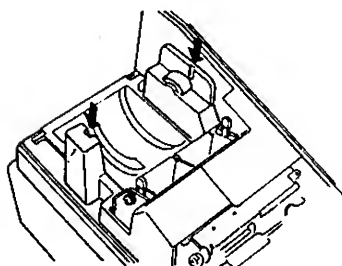

Fig. 12
8. Set the Journal Winding Reel to the Reel Holder. (Fig. 12)